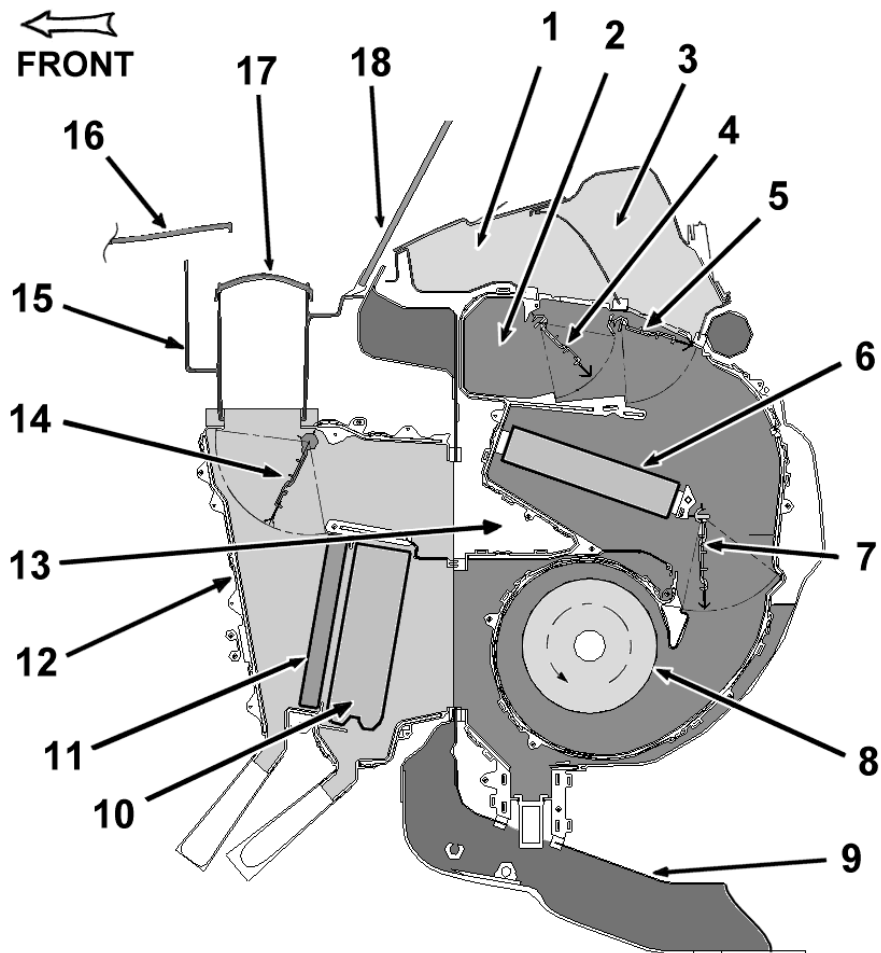

Figure 4 Cross-Section of HVAC Air Handling Components
The following figure (Figure 4) is a cross-sectional view of the air-handling components of the HVAC system, as they are mounted in the vehicle. The figure shows the system's four air doors and indicates their range of travel.
The electrically actuated fresh/recirculate air door (14, Figure 4) is located in the evaporator housing (12), and is controlled by the mode control (right knob) on the HVAC control panel. When the door is in the recirculate position, outside air is blocked by the door. Recirculation air, from the cab, enters the upper rear of the evaporator housing through the upper portion of the dash panel cutout (13). With the fresh/recirculate air door in the fresh air position, fresh outside air enters the top of the evaporator housing via an air duct which is part of the cowl drain tray (15). (The recirculate air is blocked by the fresh/recirculate air door.) In both cases the air is pulled by the blower assembly (8) through the evaporator core (10) to exit the evaporator housing through the lower portion of the dash panel cutout. The air entering the heater housing from the evaporator housing enters the dual inlet, single scroll blower assembly and is pushed through the heater housing.
The evaporator core (10, Figure 4) is located in the evaporator housing mounted on the engine side of the dash panel. The core is a cooling assembly made of tube and fin construction, with “C-plate” block-style inlet and outlet fittings. Drain valves for both condensate and rain water are incorporated into the bottom of the evaporator housing. Service access for the air filter is through the large fresh air inlet in the cowl tray and the top surface of the evaporator housing.